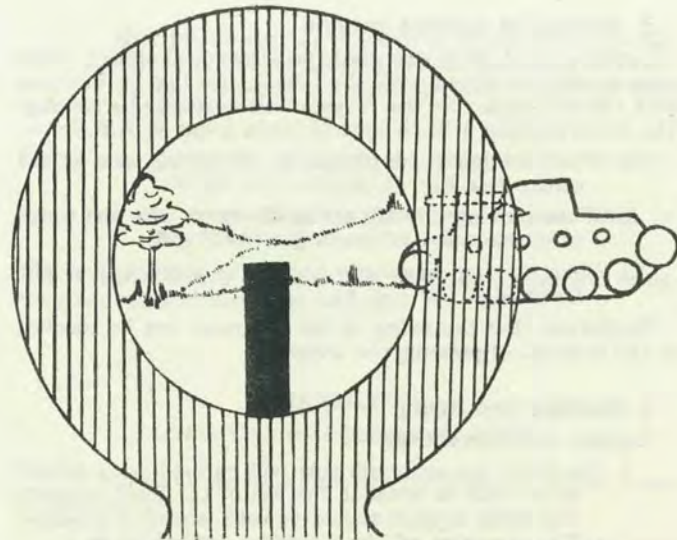

Fig. 5. Correct aim crossing tank 300 yards.
- ii. When moving directly across the front, aim one width from the centre of the target (*see* Fig. 5).